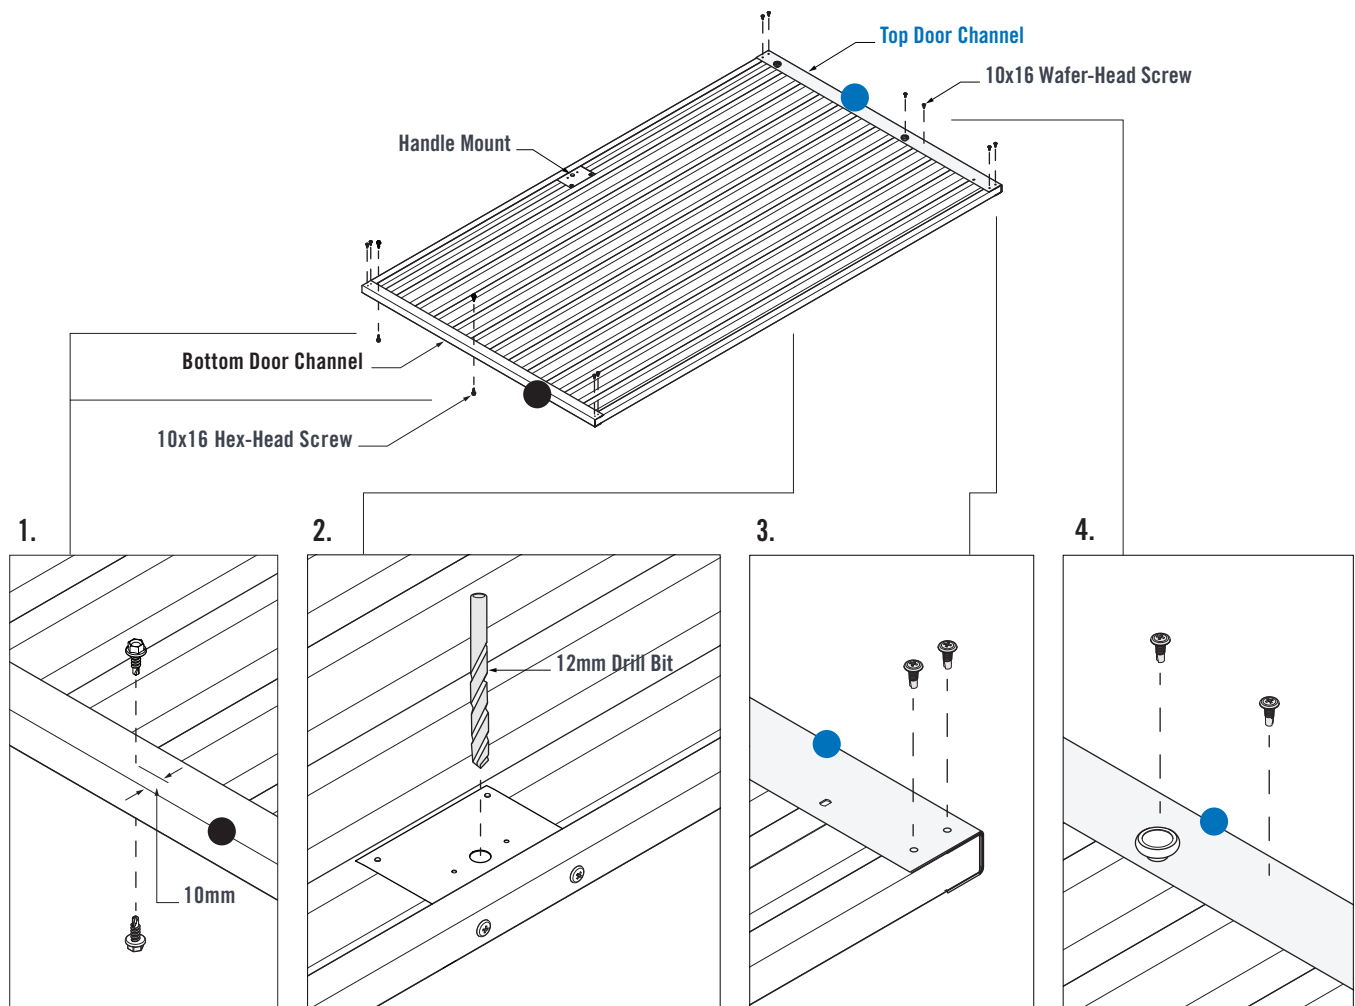

FIGURE 5.6
1. Fasten a 10x16 Hex-Head Screw into the mid-point of the Bottom Door Channel. Ensure the screw is fastened approximately 10mm from the bottom face of the Channel. Fasten a 10x16 Hex-Head Screw near the Handle Mount end of the Bottom Door Channel. Flip over the Door Assembly so that the underside is now facing up. Fasten two more 10x16 Hex-Head Screws in the same manner on the opposite side of the Bottom Door Channel (Figure 5.6).
2. Using the holes in the Handle Mounts as a guide, drill a $\varnothing 3.5$ mm pilot hole, then $\varnothing 12$ mm hole through the Wall Sheet (Figure 5.6).
3. Fasten two 10x16 Wafer-Head Screws through pilot holes in the Top and Bottom Door Channels and into the Vertical Door Channels at all four corners (Figure 5.6).
4. Fasten a 10x16 Wafer-Head Screw through the Top Door Channel and into the two Sheet Crests on both sides of the Door Wheel (Figure 5.6).